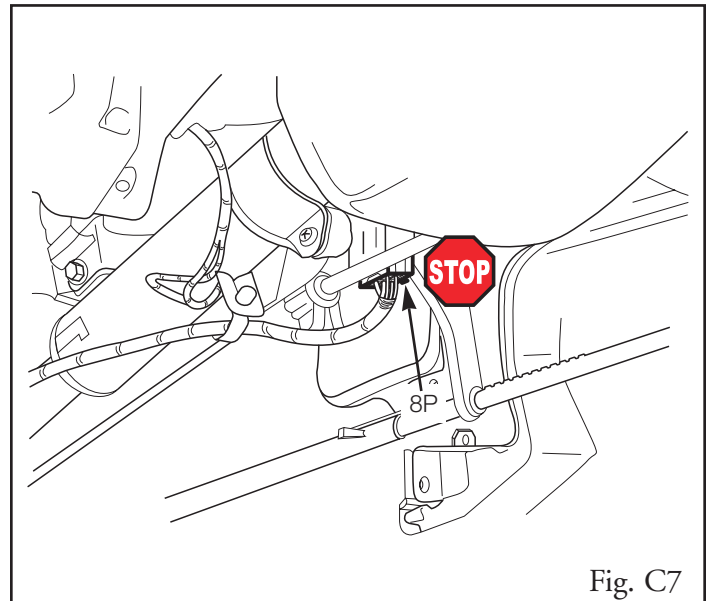

Fig. C7
9. Disconnect the vehicle harness' 8P connector from the ignition switch. (Fig. C7)